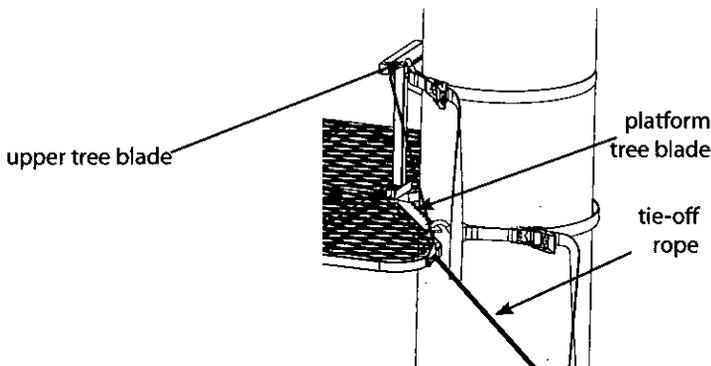

Figure 5b: Applies to RE623, RE624, and RE632
- FOR RE623, RE624 AND RE632 ONLY:** Repeat step 4 for second tree blade attachment by placing "S" hooks through holes provided on second tree blade. **SEE FIGURES 5b, 6, AND 7.**